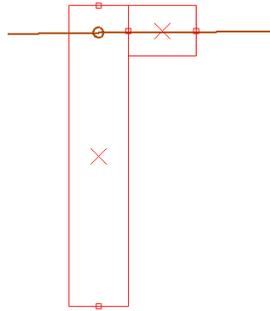

FIGURE A1.2-2 SUPPORT LINE WITH TWO SUPPORT POINTS OVER COMPOUND WALL
- Retain the first and the last support points and delete the support points (circles) in between. Do so by using the *Remove Point* tool (✂). The outcome will be a view, like **Fig. A1.2-2**.